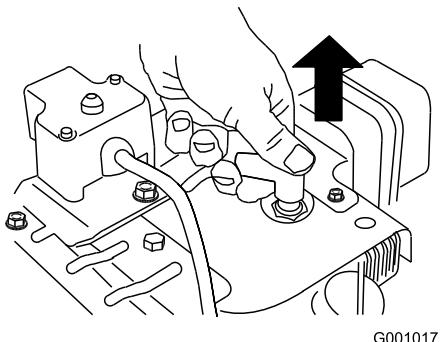

Figure 41
- Disconnect the spark plug wire (Figure 41).